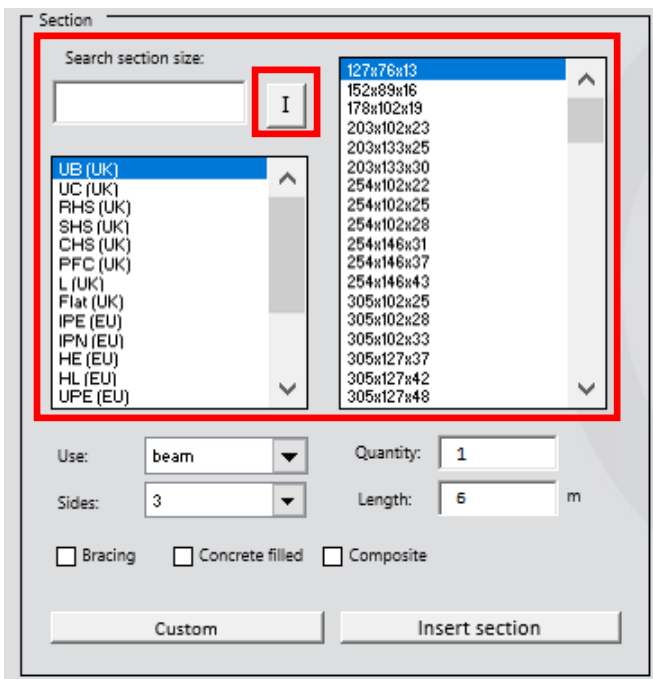
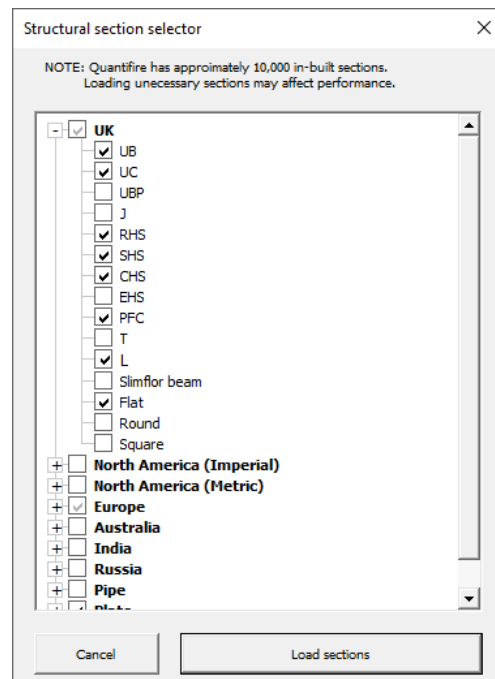

Figure 41: Serial section library
Figure 42: Structural section selector
Figure 41 shows the serial section library input on the MTO Builder. The user can search for a specific section by typing the designation into the ‘Search section size’ text box. A section is selected by clicking on the relevant serial type designation in the left box, e.g. UB(UK) and then the required section size in the right box, e.g. 127x76x13.
To access the section library, click the ‘I’ button as highlighted in Figure 41. This will open the ‘Structural section selector’ as shown in Figure 42. The user can then browse the available section types, which are grouped by typical regional and country-specific use. Once the required sections are selected, clicking ‘Load sections’ will load them into memory and populate the ‘Section’ frame on the MTO Builder page.